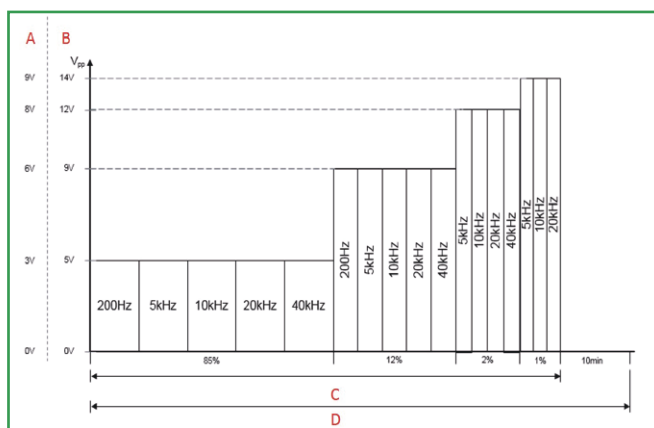

Figure 35 – Cycle description with frequency distribution
- For each HV voltage ripple, the frequencies must be distributed evenly as per figure 35.